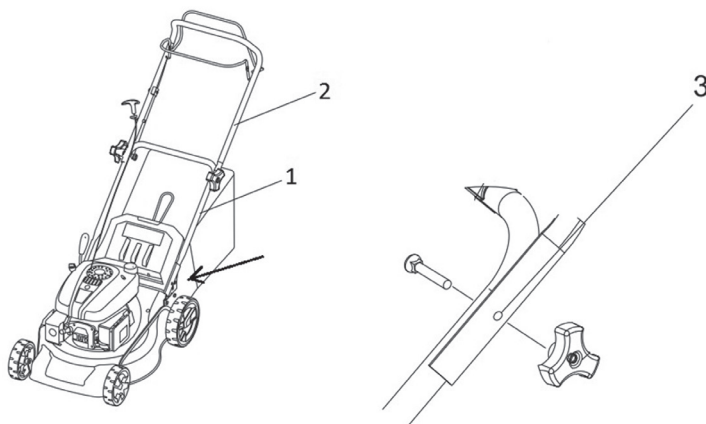

Fig. 2
1. Insert the bottom part of the handle (Fig. 2 – point 1) into the respective hole on the lawnmower (see arrow) and secure in place with 4 screws – two screws on each side of the handle.
2. Attach the top part of the handle (Fig. 2 – point 2) to the bottom part of the handle using the included screws with wing nuts (Fig.2 – point 3).